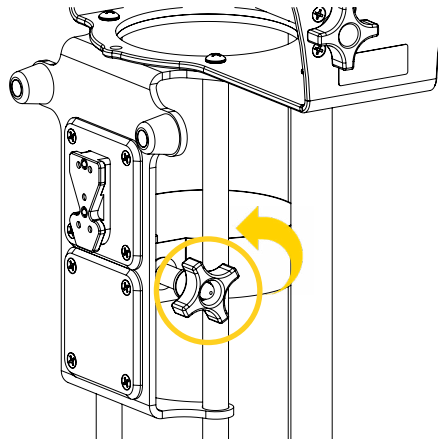

Figure 7: Loosening the retainer
3. Turn the knob of the gas cylinder retainer counterclockwise to loosen the retainer (Figure 7).